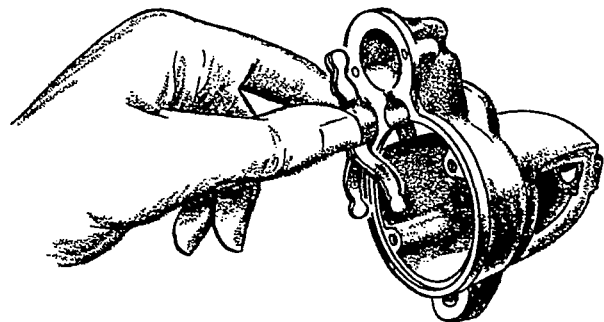

FIGURE 29. INSTALLING SHIFT LEVER
6. Insert the shift lever as shown in Figure 29 into the front bracket.